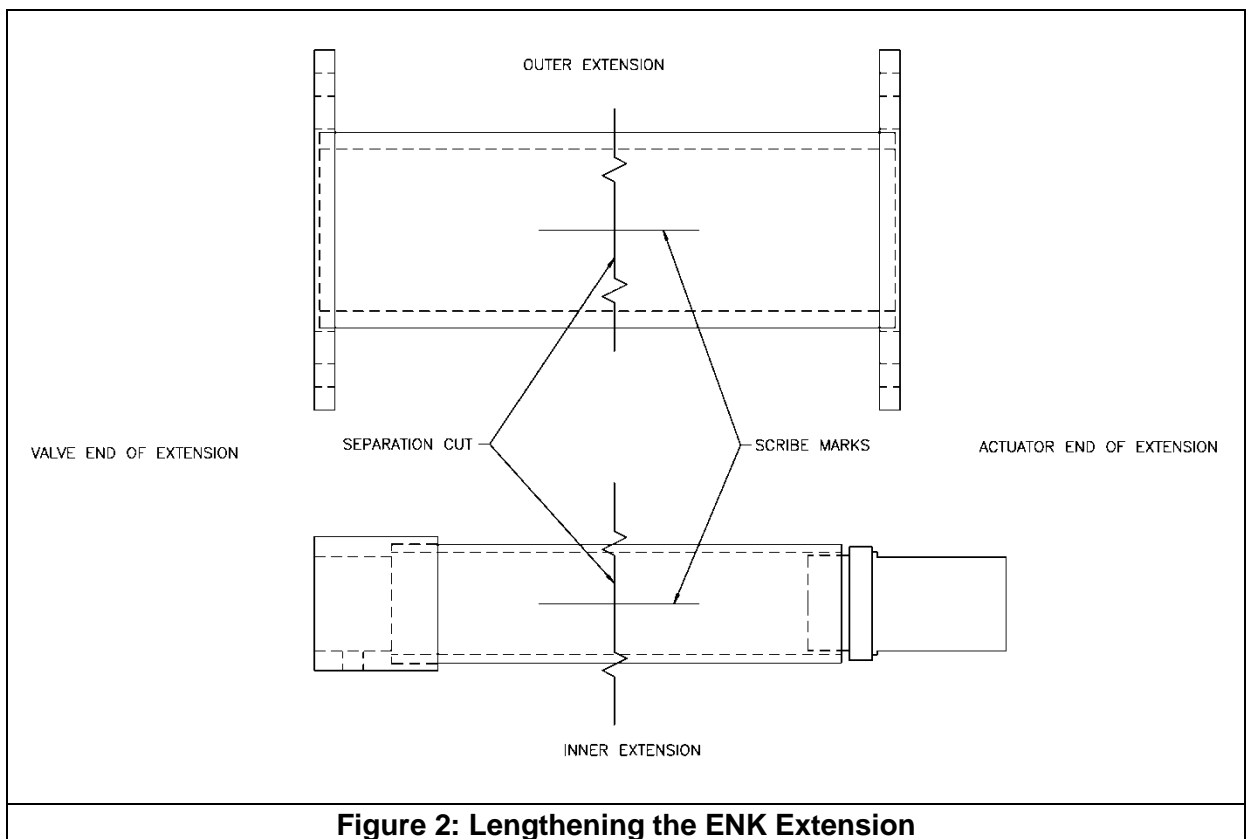

Figure 2: Lengthening the ENK Extension
1. Scribe inner and outer extensions as shown in Figure 2 with the scribe marks at least 4" long.